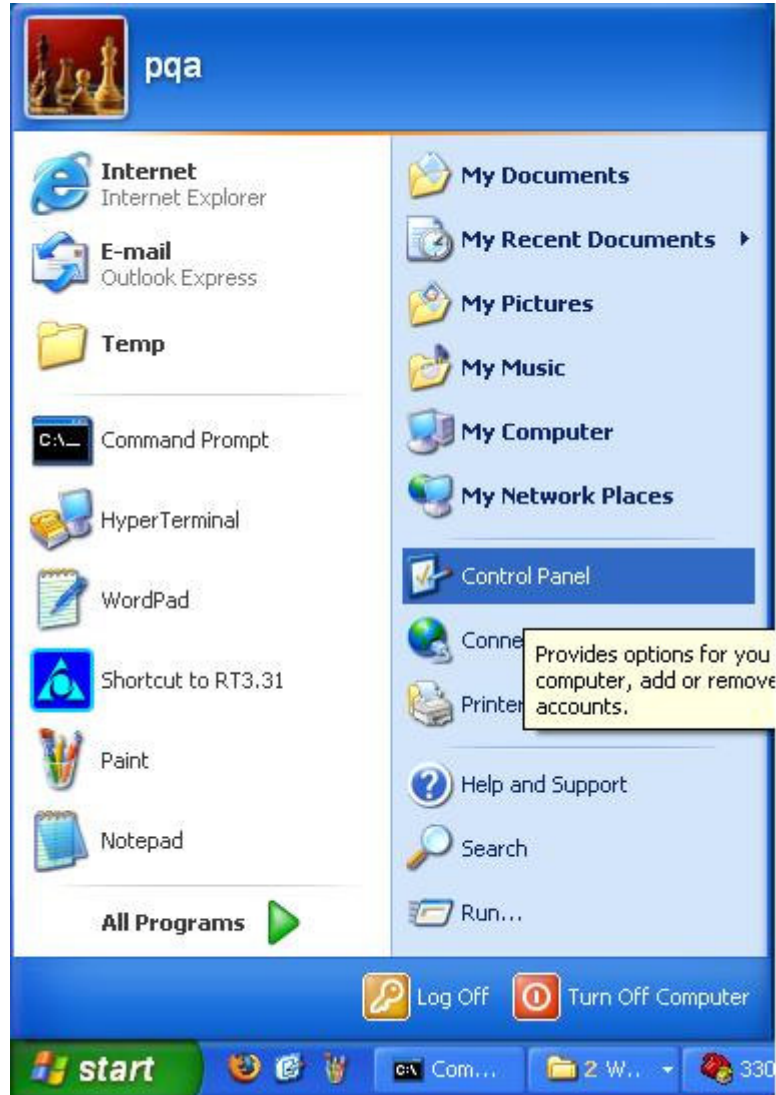

Figure 3-12. EMS server environment-1
1. Start -> Control Panel as Figure 3-12.